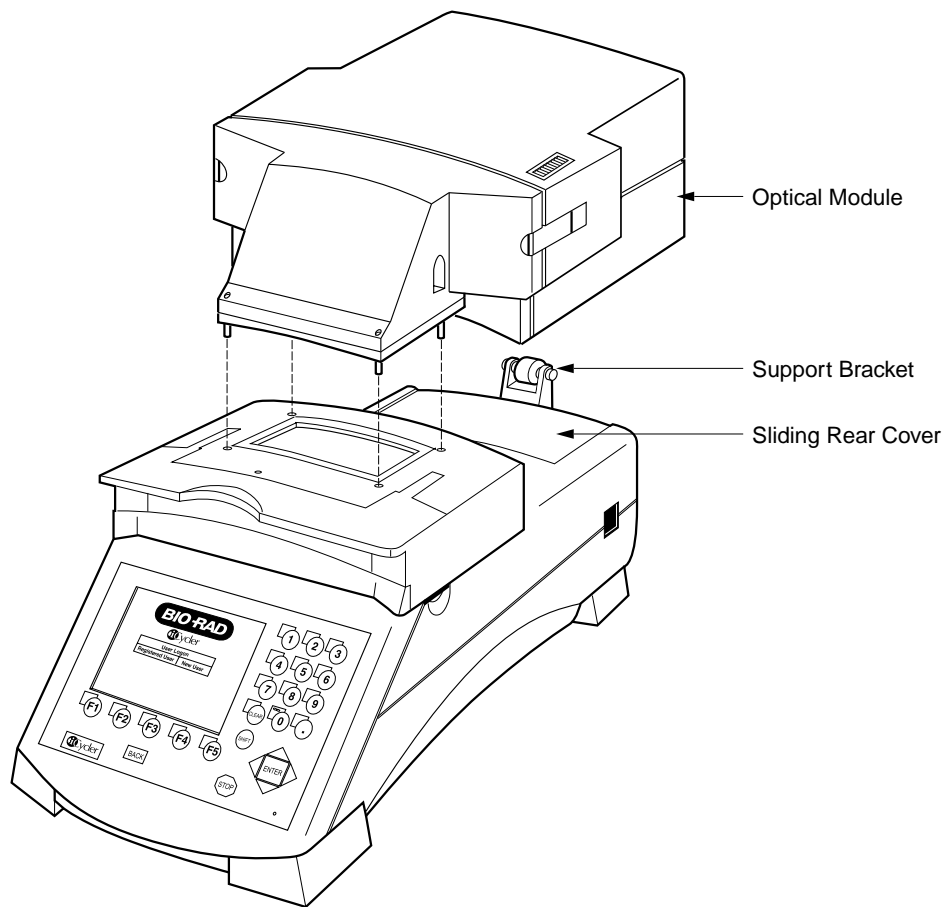

Fig. 5. Mounting the Optical Module.
6. Push the sliding rear cover on top of the chassis as far back as it will go (see Figure 5.)
The Optical Module mounts directly to the top of the optical lid, as shown in Figure 5.
1. Place the 4 10-32 x 7/8" socket head screws in the holes on the base of the Optical Module (see Figure 5).